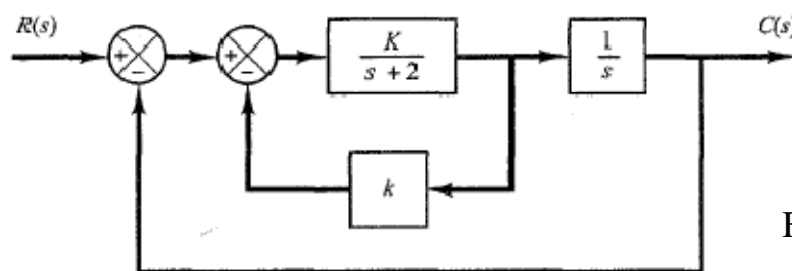

Fig. 3
- 6) Referring to the system shown in Fig. 3, determine the values of K and k such that the system has a damping ratio 0.7 and an undamped natural of 4 rad/sec.